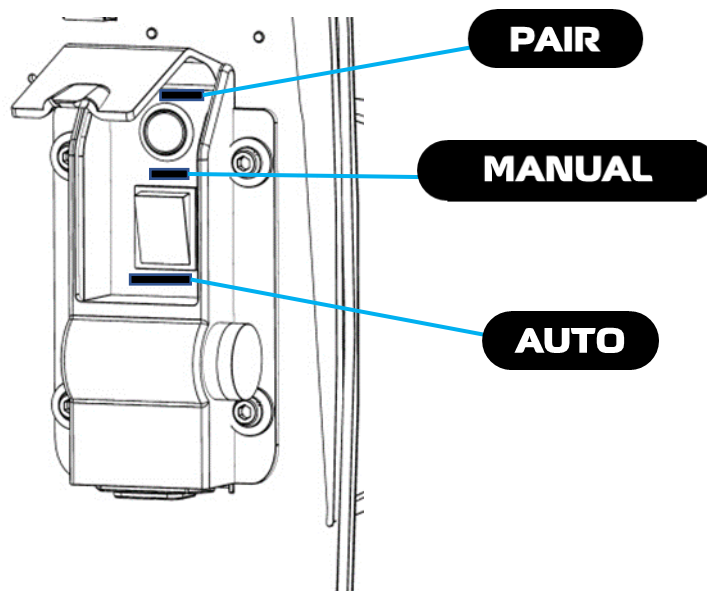

Fig. 1
1. Flip the station settings to 'MANUAL' (Fig. 1).